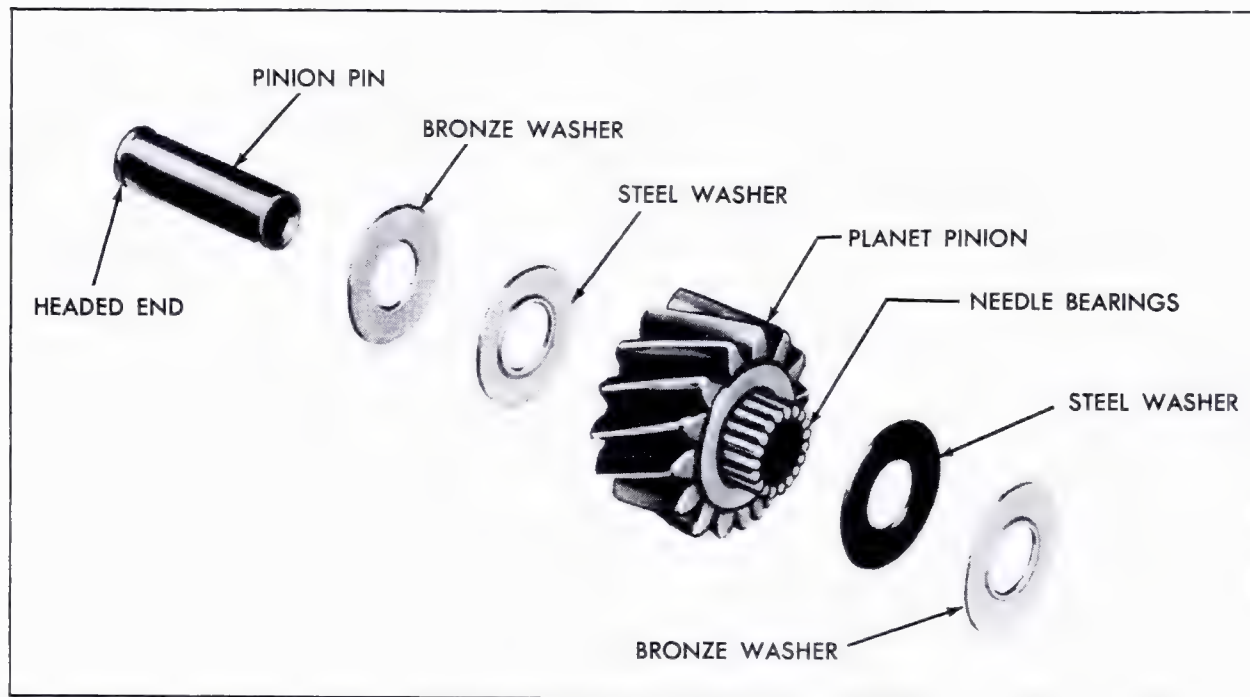

Fig. 7-179 Planet Pinion Assembly Disassembled
g. Place a bronze and steel thrust washer on each side of pinion gear with steel washers against gear, Fig. 7-179. Hold washers in place with petrolatum.